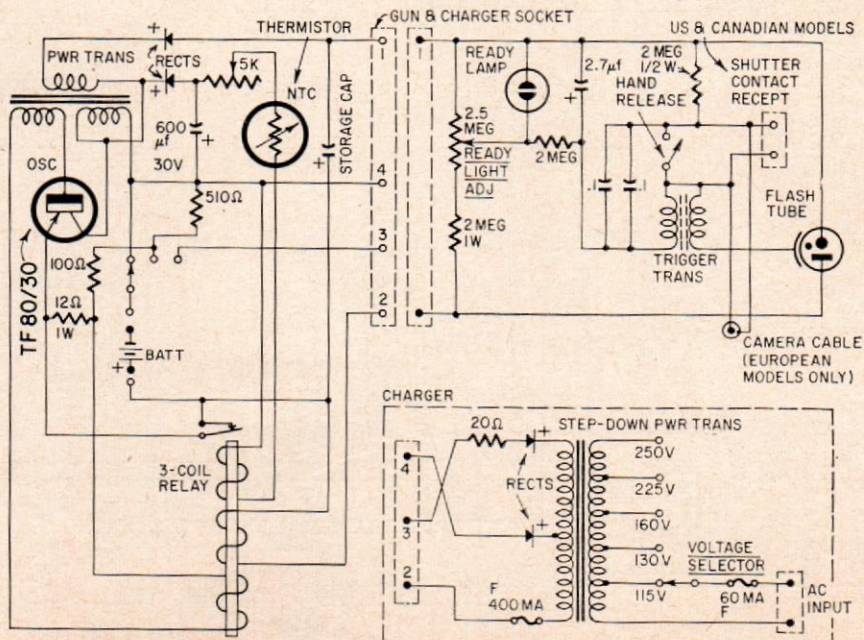

Fig. 7—F-60 power supply for the Braun flash units.
E. Leitz advises me that they supply parts only to authorized Braun Hobby repair stations. Fig. 7 is the power supply made by E. Leitz for various flash heads, and is similar to the three just described.